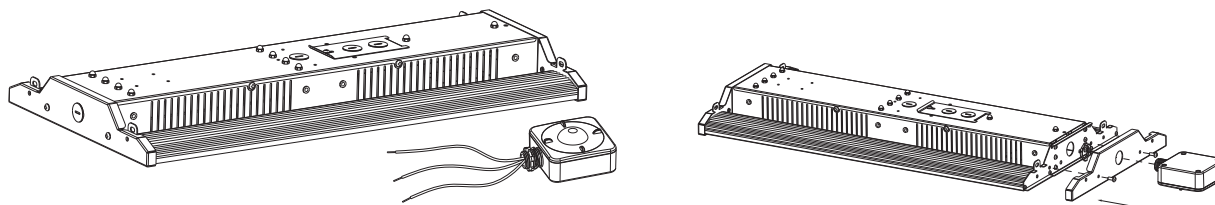

Figure 15
Step 2. Remove the breakable hole on the side cover of the fixture, install PIR sensor on the cover(Figure 15) Fix the cover on the fixture.